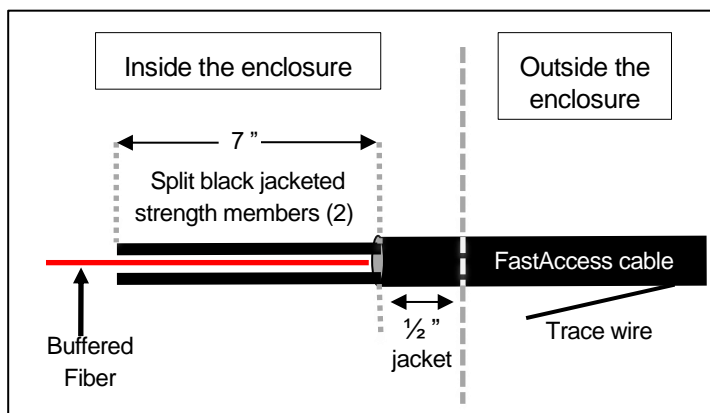

Figure 8. FastAccess drop cable / strength member preparation
- Two packs of nuts and grommets for use with FastAccess® /figure 8 style fiber optic cable
For FastAccess Drop Cable (Figure 8)